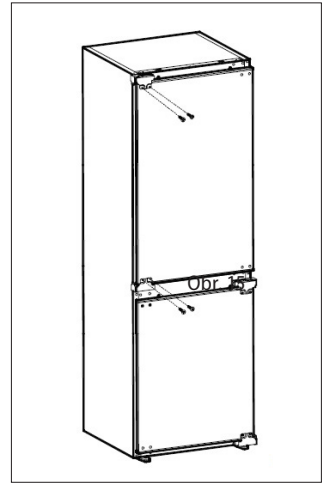

Fig. 19
5. Reinstall the door of the refrigerator (Fig. 19) and attach the door to the hinges with the screws.